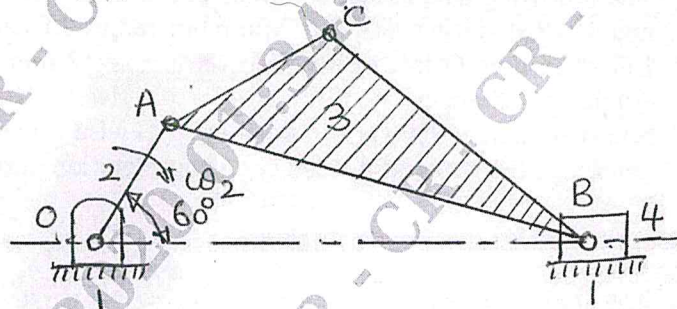

Fig. Q3
- In the mechanism shown in Fig. Q3. The crank 2 rotates at 3000 rpm. Find the acceleration of point C in magnitude and direction. Also find the angular acceleration of link 3. OA = 50 mm, AB = 175 mm, AC = 75 mm and AB = 125 mm. (20 Marks)